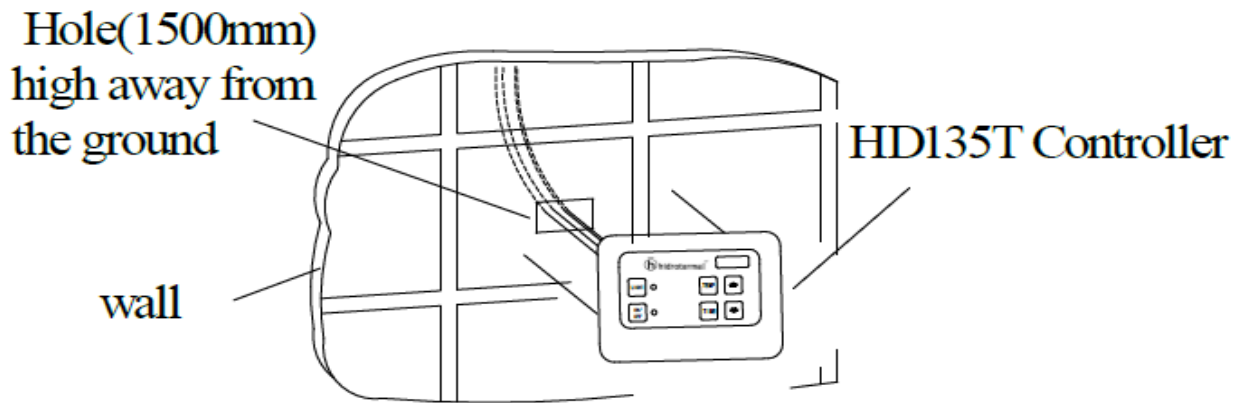

Figure 3
- A) The controller should be installed outside of the steam room with convenience access for operations. Please install it as near as possible to the room's door. The recommended height is 1.5meter above from the ground. See Figure 3